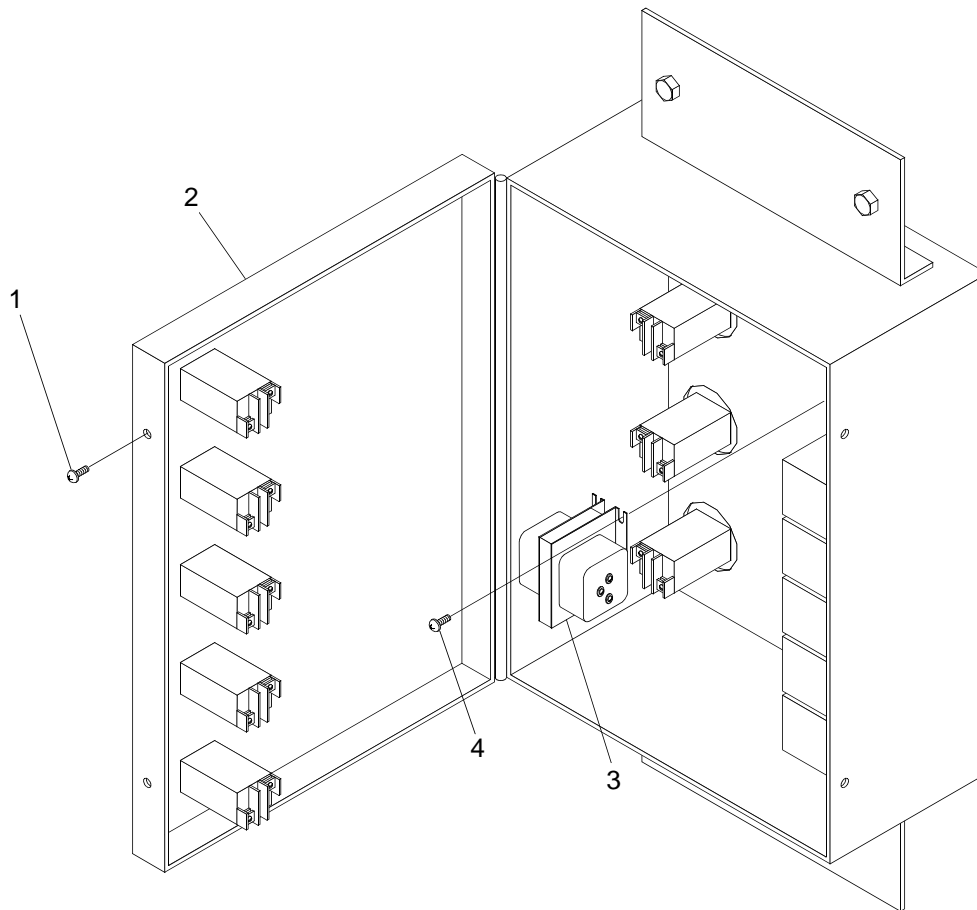

Figure 2. Fuel Tank Signal Box Transformer
2. Remove screws (figure 2, item 1) and open fuel tank signal box door (figure 2, item 2).
3. Label and disconnect wiring from transformer (figure 2, item 3).
4. Remove screws (figure 2, item 4) and transformer (figure 2, item 3). Discard transformer (figure 2, item 3).
5. Position new transformer (figure 2, item 3) in fuel tank signal box.
6. Install and tighten screws (figure 2, item 4).
7. Connect wiring to transformer (figure 2, item 3).
8. Close fuel tank signal box door (figure 2, item 2) and secure with screws (figure 2, item 1).